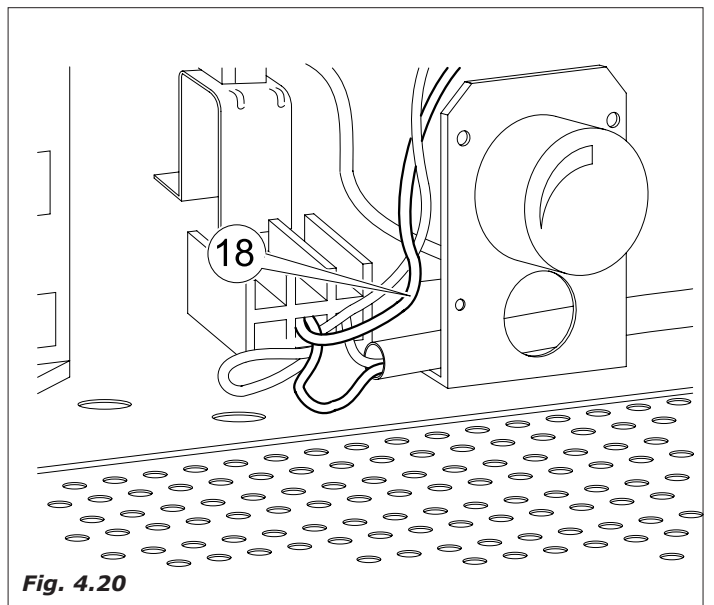

Fig. 4.20
- Connect the refrigerating group electrically (insert into the junction box the blue wire n. 18) (Fig. 4.20)